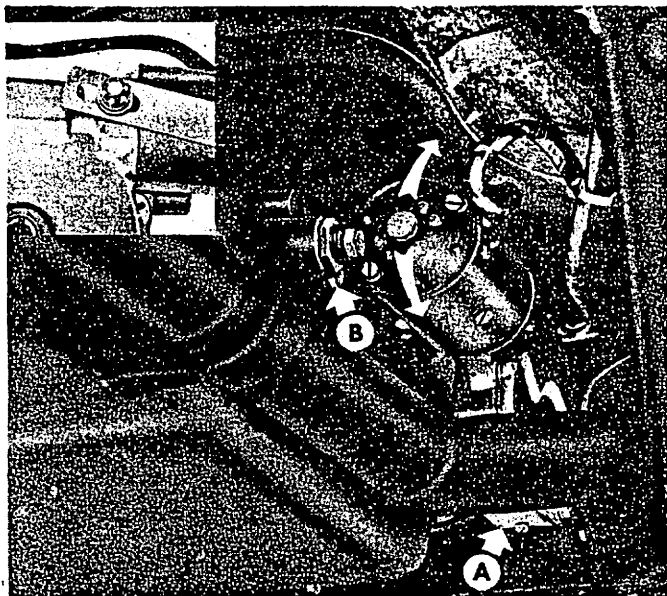

Fig. 7 REMOVING ACTUATOR
7. Remove the screws and plate "A" figure 7 from the lower side of the actuator gear housing.
12. Remove the cap screw ("B" fig. 7) that holds the actuator unit to the transmission and slide the assembly outward off the valve lever shaft.
Fasten the inspection plate and gasket ("A" Fig. 7) firmly in place. Engage the mounting stud with the actuator and install the mounting nuts ("B" fig. 7).